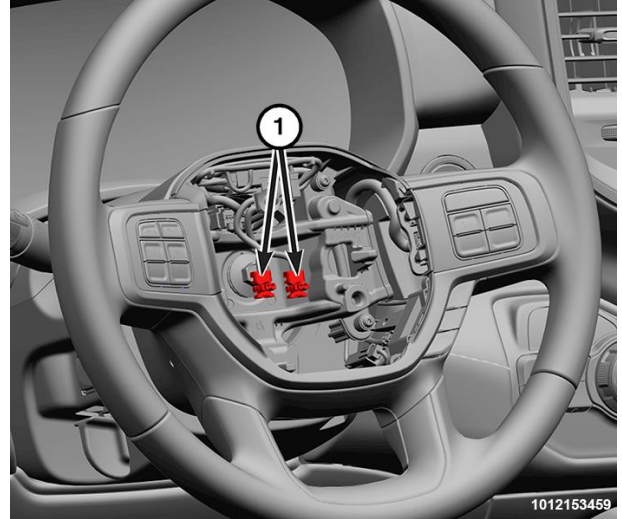

Figure 19 – Steering Wheel Wire Harness Connectors
11. Pull the DAB away from the steering wheel far enough to access the steering wheel wire harness connector to the DAB inflator initiators (1) (Figure 19).
12. The clockspring DAB pigtail wire connector insulators are secured by integral latches and a Connector Position Assurance (CPA) lock to the airbag tether cutter and inflator connector receptacles, which are located on the back of the floating horn switch plate and the DAB housing. Pull the lock straight away from the connector insulator, then pull the insulators straight away from the connector receptacles to disengage and disconnect them (Figure 19).
13. Connect the two steering wheel wire harness connectors (Figure 19).
14. Position the DAB close enough to the steering wheel to connect the steering wheel wire harness connectors to the DAB inflator initiators (1) (Figures 19 and 20).